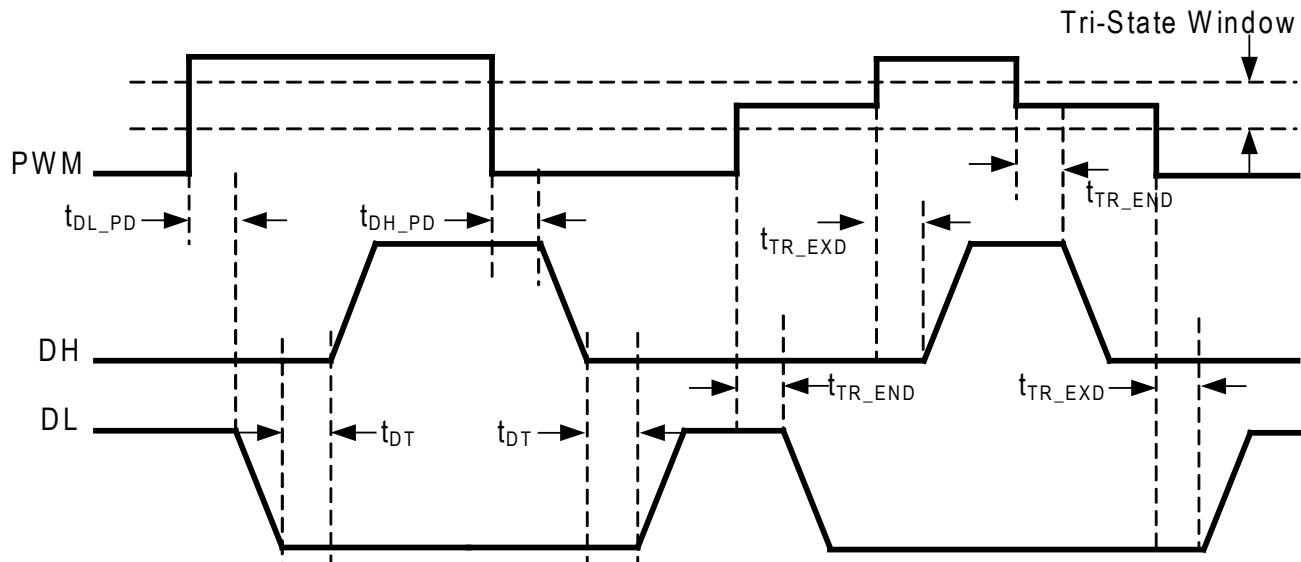
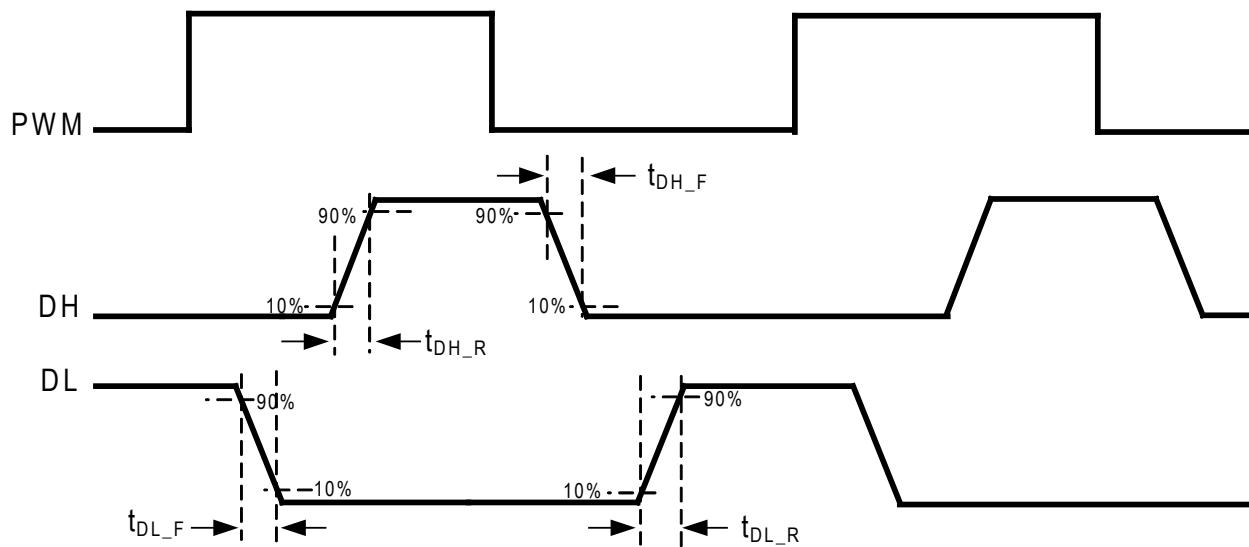

Figure 2. Timing Diagram 1
Figure 3. Timing Diagram 2
- (1) Refer to Figure 2 and Figure 3 for the timing definition.
- (2) The dead time is $C_{DT} \times 1\text{ns/pF}$, where C_{DT} is in pF.